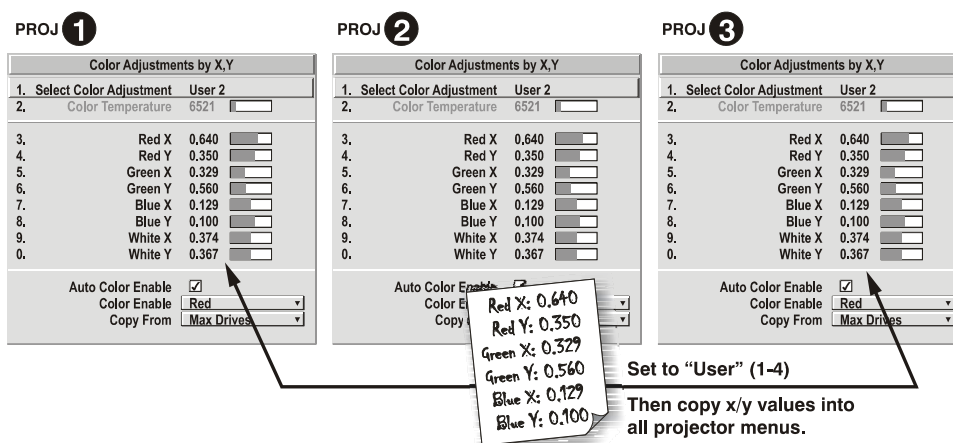

Figure 3.15. Copy X/Y Values into All Projectors
5. In each projector, select a “User” color adjustment (1-4) to enable *Color Adjustments by X,Y* changes. Then enter your recorded x/y values into each menu (Figure 3.15).